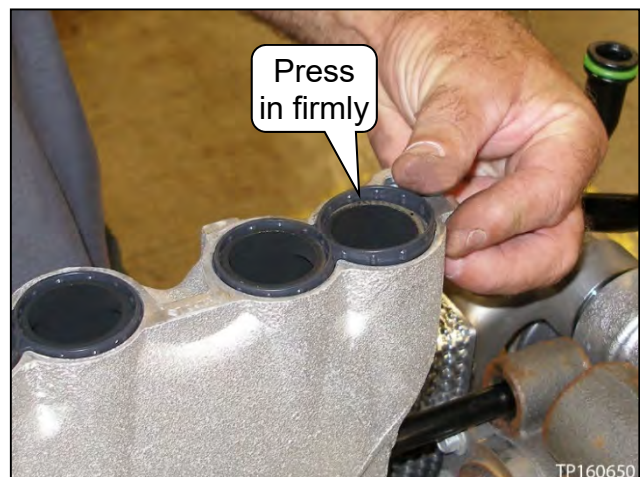

Figure 79
- Make sure all O-rings are in place and properly seated (see Figure 79).